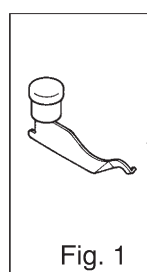

Fig. 1
Pull out the converter as shown in Fig. 1.
2. After finishing, re-set the stitch finger in its place. Please ensure inserting it deep as illustrated in Fig 1.